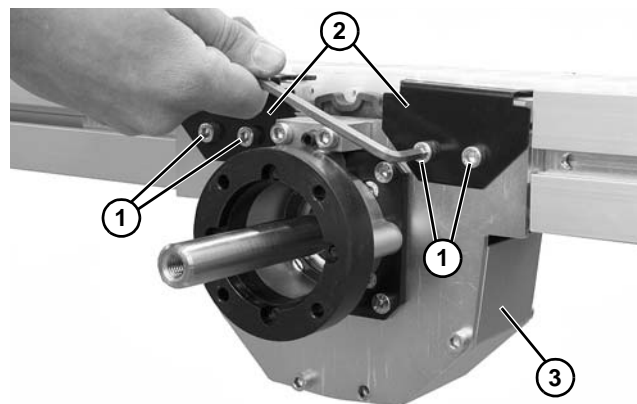

Figure 143
4. Remove four socket head screws (**Figure 143, item 1**) securing belt hold down tabs (**Figure 143, item 2**) to drive assembly (**Figure 143, item 3**).